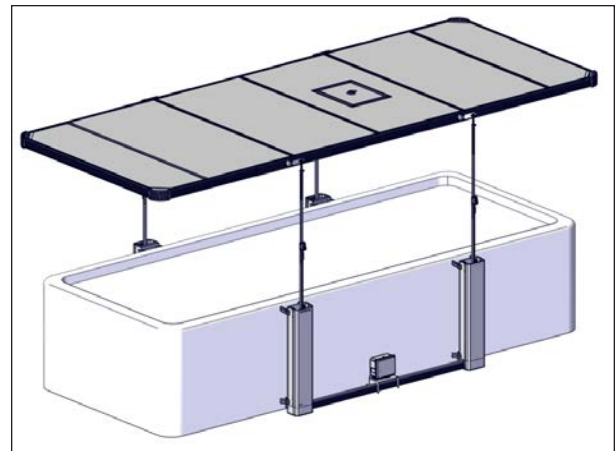

FIGURE 114: JACK RAISING
6. Raise the jacks until the system stops at its maximum limit, see Figure 114.